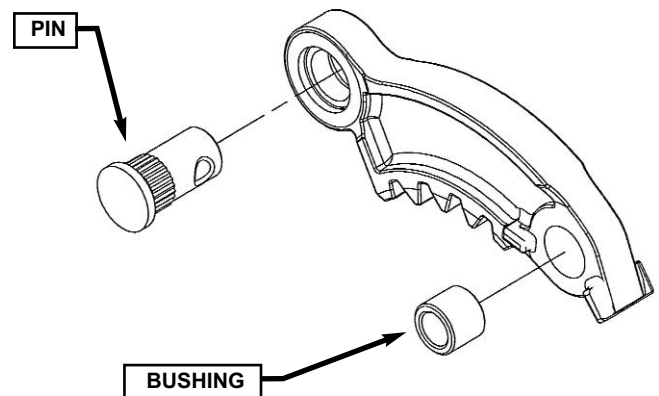

FIGURE 2
- Install the supplied pin and bushing into the new brake arm. See Figure 2. **NOTE:** The pin and/or bushing may already be installed into the brake arm. If so, continue to Step 3b.